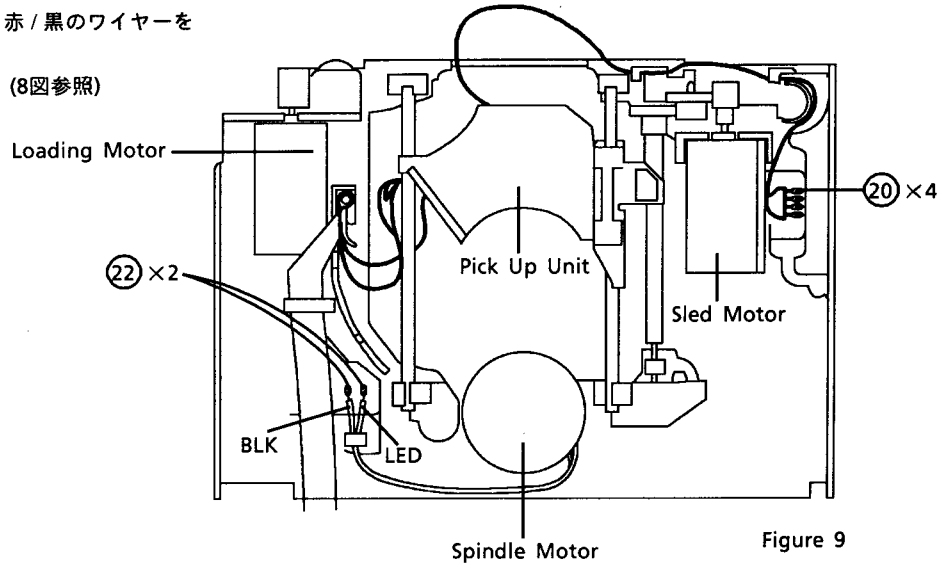

Figure 9
- (1) Remove the four solders (20) as shown in Figure 9.
- (1) Disconnect the RED and BLK wires, by removing the two solders (22) as shown in Figure 9.